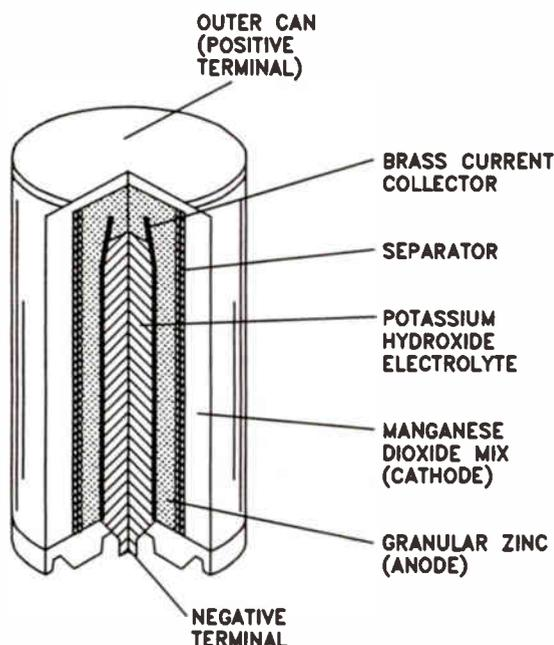

Figure 4. Principal parts of an alkaline cell.
**Alkaline Cells.** Alkaline cells get their name from the highly caustic base (potassium hydroxide) used in the electrolyte, rather than a slightly acidic one containing a salt such as ammonium- or zinc-chloride. An alkaline cell is similar to a carbon-zinc cell, but has significant differences, as Fig.4 illustrates (on the next page).